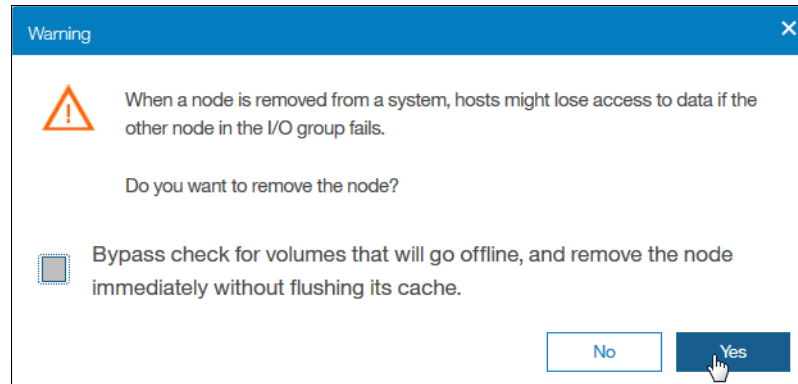

Figure 12-51 Node removal confirmation window
8. A warning message appears to ask whether you want to remove the node, as shown in Figure 12-51 on page 661. Click **Yes**.